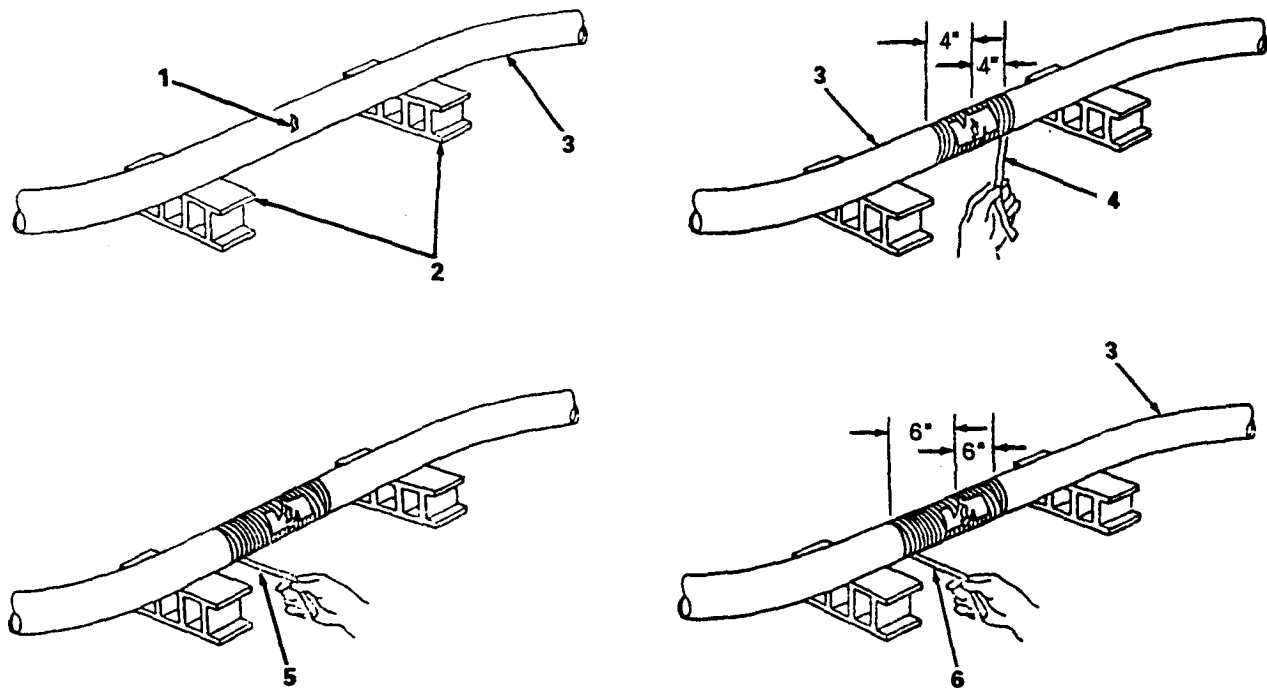

Figure 3-7. Minor Leaks, Repair.
- (1) *Minor leaks.* (Figure 3-7)